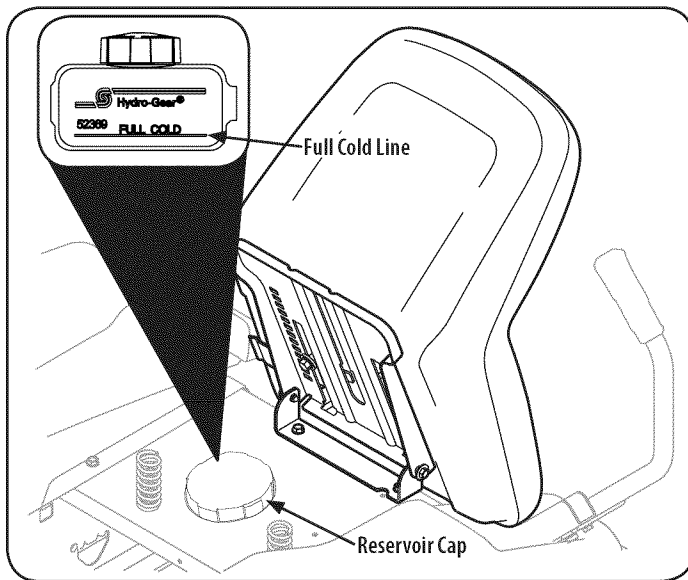

Figure 30
1. Pivot the operator's seat forward and clean the reservoir cap and the area around the cap to prevent debris from contaminating the transmission oil. See Figure 30.